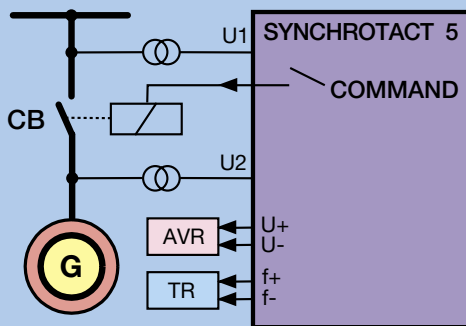

Fig. 1: Automatic synchronizing and paralleling
1. Automatic synchronizing and paralleling of generators with power lines (see Fig. 1 below)